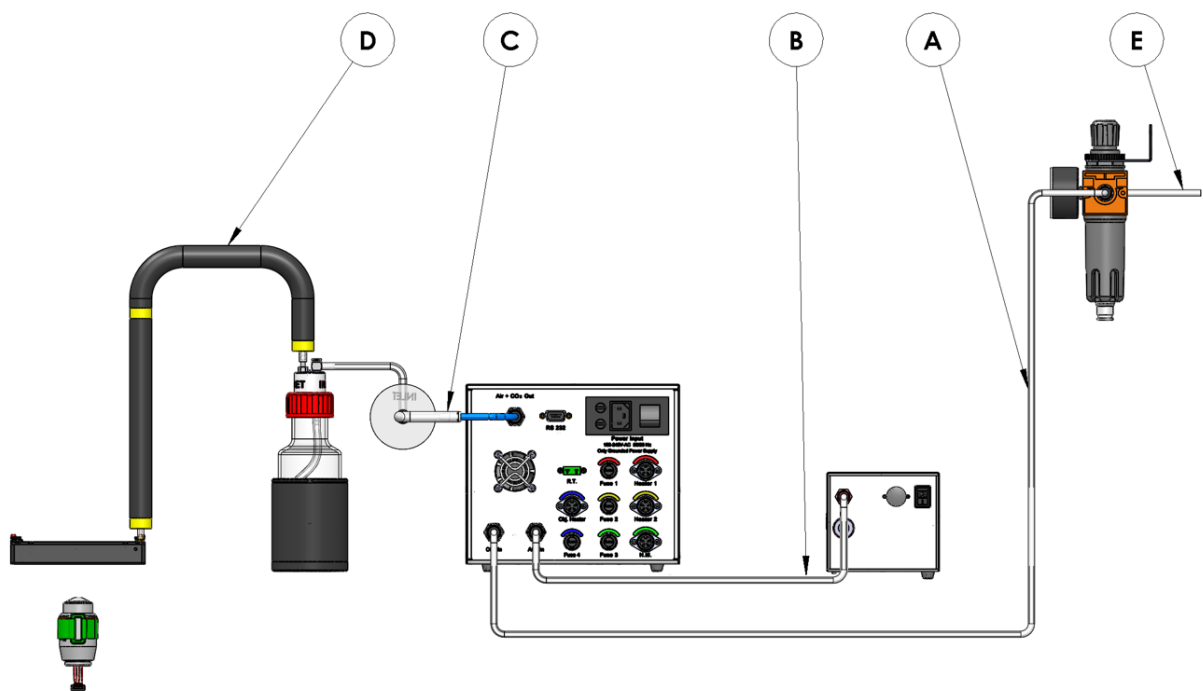

Figure 4. Complete gas lines scheme.
2. Connect a rigid tube for pressurized gas (not supplied, see Figure 4), with 6 mm Outer Diameter to the gas output on the pressure regulator of the CO₂ tank. Alternatively fit the pressure regulator of the CO₂ tank with a Swift-Fit Connector for rigid plastic tube with 6mm O.D. and connect TUBE D (supplied, see paragraph 7.1). If you need further assistance please contact Okolab.
3. Please use the rigid tube, TUBE D (supplied, see paragraph 7.1), 3m long 6mm O.D., (see Figure 4) to connect the controlled (filtered and at P=1bar) flows of CO₂ from the Pressure Gauge to the Control Unit. Connect TUBE D to the inlet located on the back of
4. Use the rigid tube, TUBE D (supplied, see paragraph 7.1), to connect the Air Output Swift-Fit connector on the front panel of the OKO-AP to the Air Inlet Swift-Fit connector on the rear panel of the Control Unit (Figure 4).
5. Use TUBE E (supplied, see paragraph 7.1) (assembled as follows: 2m long, 6mm O.D. blue rigid tube + to 0.5 m long 4mm I.D. silicon transparent tube + 0.2 micron porous hydrophobic filter + 0.5 m long 4mm ID silicon transparent tube) to connect the Air + CO₂ output Swift-Fit connector on the rear panel of the Control Unit to the Inlet barb connector on the Humidifier bottle, as illustrated in Figure 4 and Figure 5.
6. Use TUBE H (supplied, see paragraph 7.1) (assembled as follows: 0.5 m long 4mm ID silicon transparent tube + 1 m long, 2mm ID silicon transparent tube wrapped in insulating material) to connect the Outlet barb connector on the Humidifier bottle to the miniature barb connector on the Incubating Chamber, as illustrated in the Figure 4 and in Figure 5.